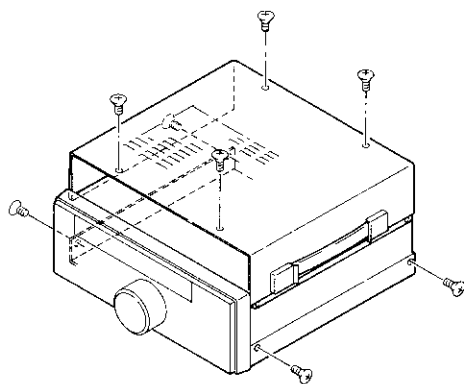

Fig. 1
1. Remove the top cover of the transceiver.(Fig.1)